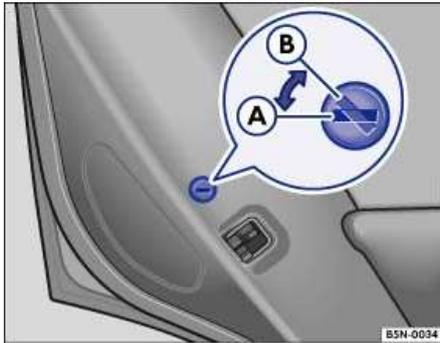
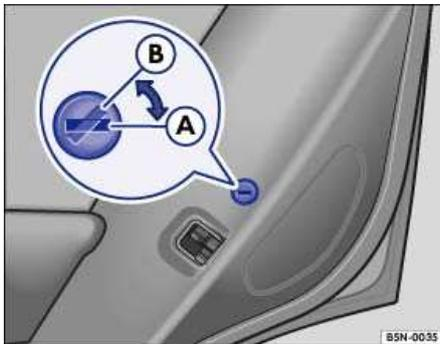

Fig. 23 Child safety lock in the rear left door: (A) unlocked; (B) locked.
Fig. 24 Child safety lock in the rear right door: (A) unlocked; (B) locked.
- Turn the slot in the door to the position shown in ⇒ Fig. 23 (B) / ⇒ Fig. 24 (B).